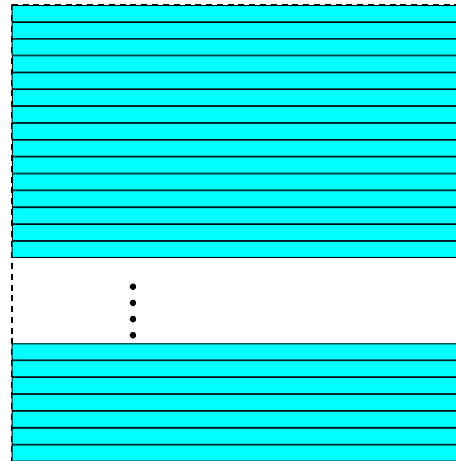

Fig. 103: Decimation Disabled
- 1: the complete frame will be transmitted out of the camera (no sub-sampling is realized); see Figure 103. This is valid for mono and color cameras.